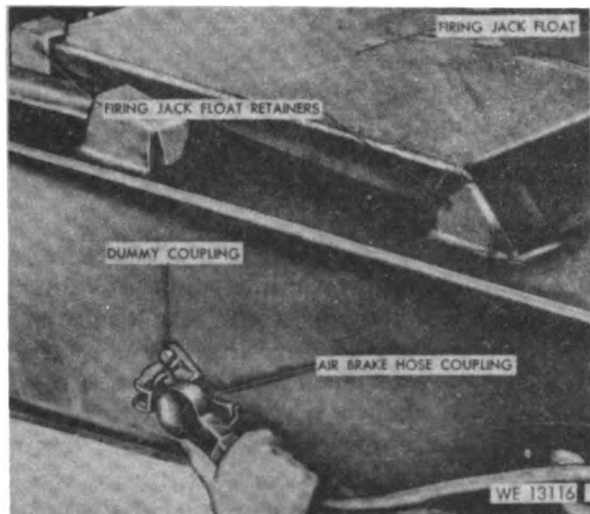

Figure 37. Attaching air brake hose coupling to dummy coupling on trail.
- (3) Lock the air brake hose couplings in the dummy couplings on the sides of the trails (fig. 37). Remove the overall cover and the canvas firing jack cover, if in place. Remove the muzzle cover from cannon muzzle. Open the drain cock on the air tank (fig. 38).
- (2) Remove the weapons handling bars from their supports on top of the trails (fig. 47) and insert them in the weapons handling bar sockets (fig. 48) in the end of the trails. Break the trails and spread them sufficiently to remove the firing jack float (fig. 37) from retainers. In some cases, it will be necessary to place the end of the weapons handling bar between the ends of the trail and use it as a lever to break the trails apart. Place the firing jack float in front of the weapon. Spread the trails to their fully open position (fig. 49).